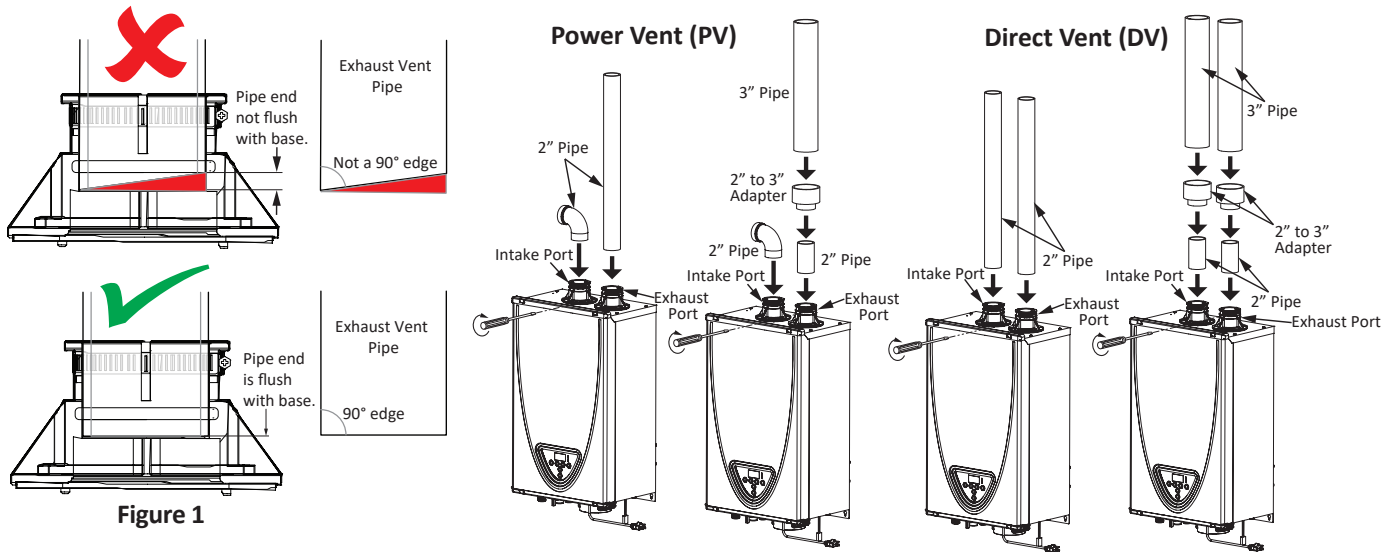

Figure 1
1. Insert 2" straight pipe fully into the exhaust/intake ports. (Figure 1) The pipes should insert 2 inches.